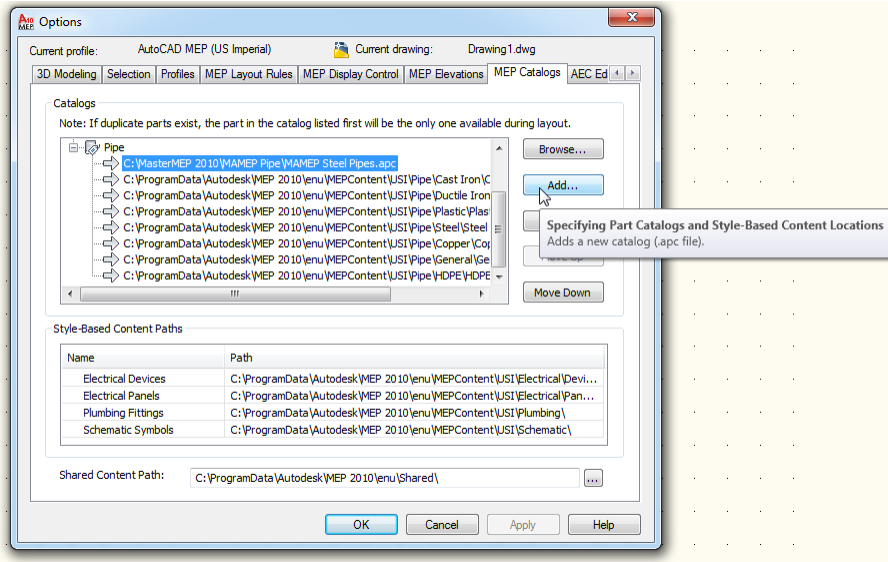

Figure 6.13
11. Use the Move Up button on the right to make the new catalog the first in the list and then click OK to exit the “Options” dialog (see Figure 6.13).